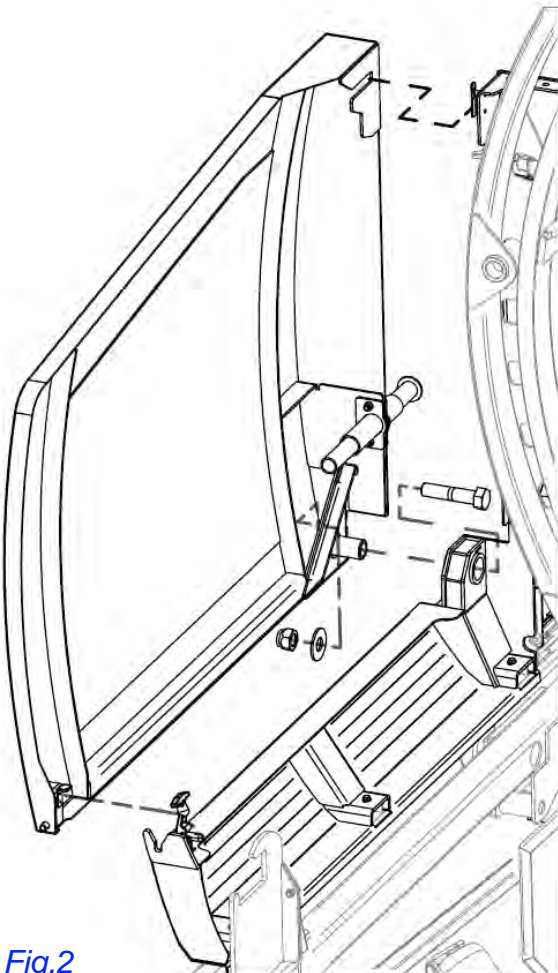

Fig. 2
4. Install left safety guard by bolting at pivot point. Do not over tighten. See Fig. 2.